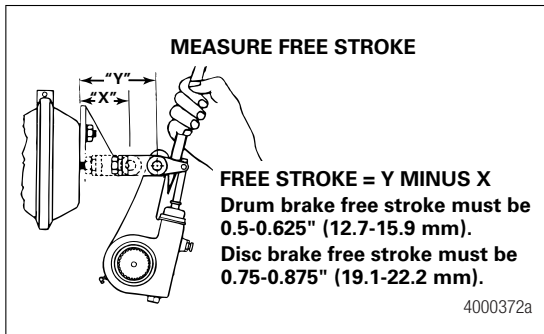

Figure 6.2
3. Measure the distance from the center of the large clevis pin to the bottom of the air chamber while the brake is released. The measurement you obtain is X in Figure 6.2.
4. Use a pry bar to move the slack adjuster and position the linings against the drum, brakes applied. Measure the same distance again while the brakes are applied. The measurement you obtain is Y in Figure 6.2.
5. Subtract X from Y to obtain the in-service free stroke. The measurement must be 0.5-0.625-inch (12.7-15.9 mm) for drum brakes. Figure 6.2.